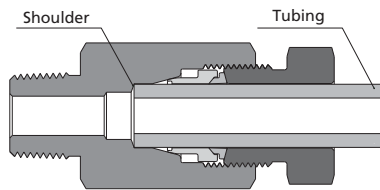

Fig.2
2. Insert the tubing into the fitting body or the valve. Finger tight the nut. Make sure that the tubing rests firmly on the shoulder of the fitting body or the valve (Fig. 2).